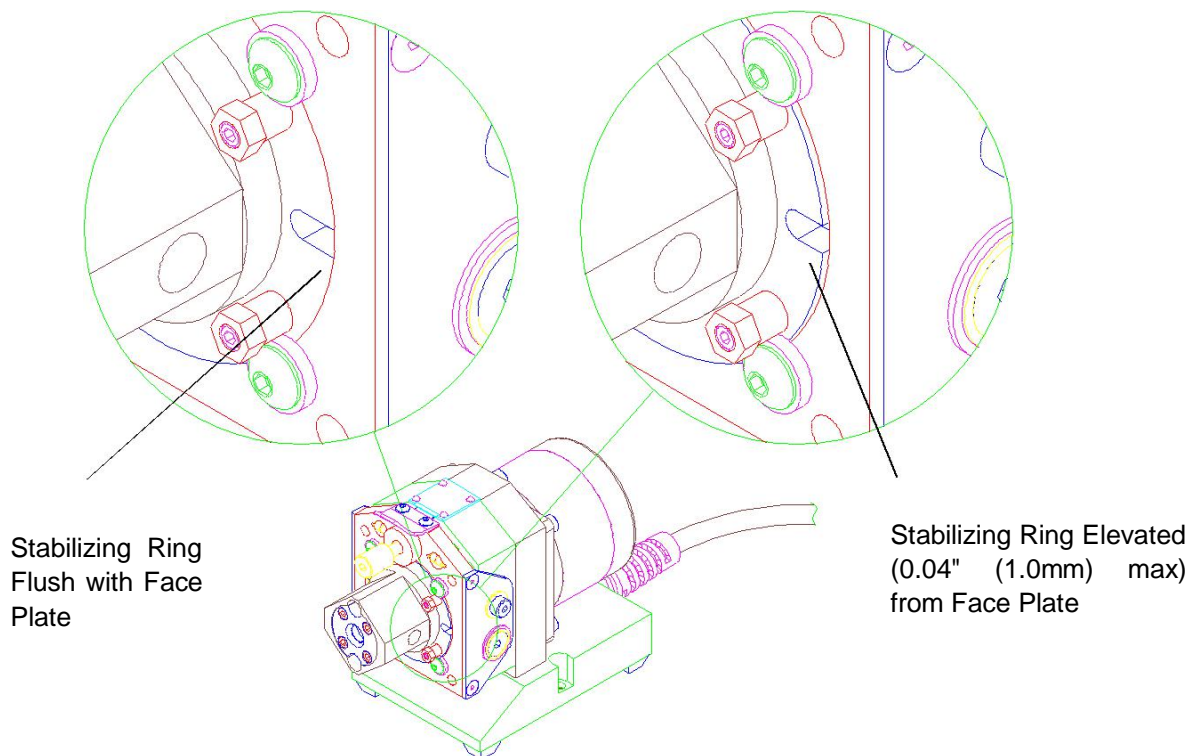

Figure 5.5 Stabilization Adjustment
The following steps describe the procedure for adjusting the pump module for neutral discharge. In general, a neutral position is established when the pump module stabilizing ring is flush with the face plate. In this position, the set screws (2) are not in contact with the face plate. (See Figure 5.5)
2. Loosen, do not remove, two stabilizing lock nuts (3) and back out (counterclockwise) the #4-40 x .38" long socket set screws (2) so they don't contact the Motor/Base Module (4).